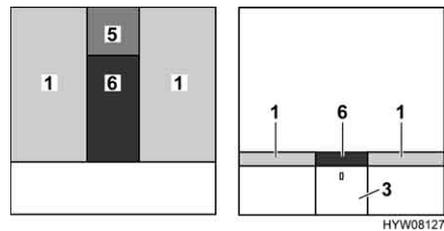

Fig. 83 After conversion
- Place the additional cushion (Fig. 83,5) on the bedside locker.
- Place the additional cushion (Fig. 83,6) between the mattresses (Fig. 83,1).